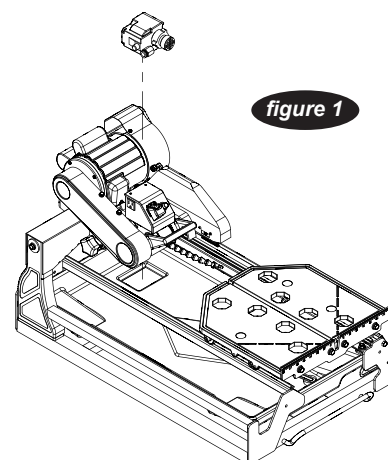

figure 1
1. Install water pump per Water Pump Installation section. (see figure 1)